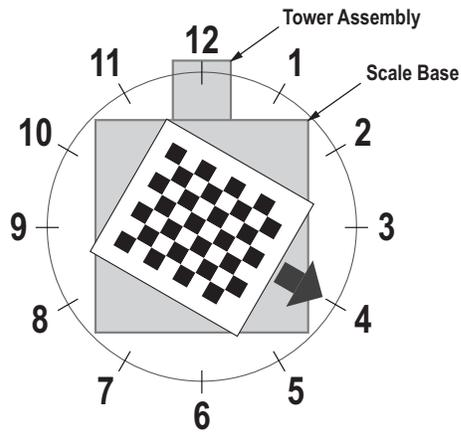

Figure 7-4. Rotate to 4 o'clock
- Align calibration object so the cross hairs are centered. Rotate the calibration object to 4 o'clock with the tower assembly being at 12 o'clock (Figure 7-4).